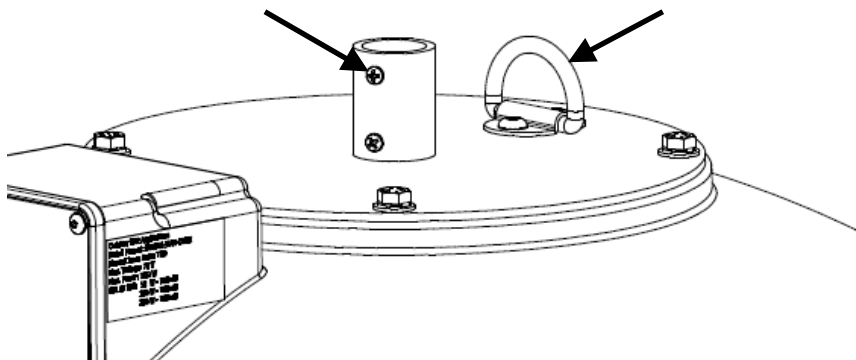

Figure 2: Location of screw to tighten rigid conduit
- 2) Screw the rigid conduit onto the unit and tighten the top Phillips head screw as shown in Figure 2.